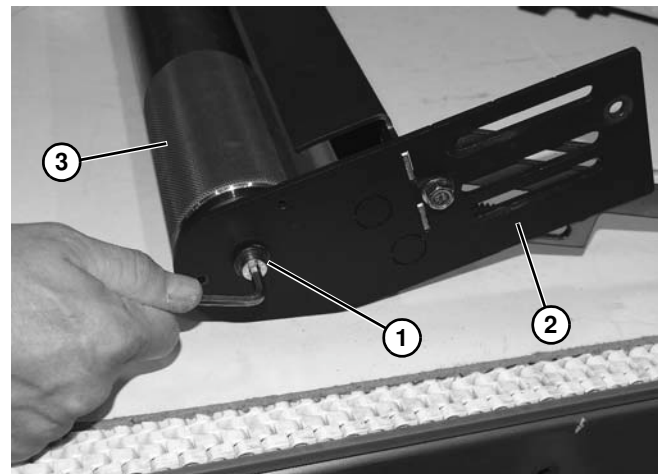

Figure 145
6. Remove screw and washer (**Figure 145, item 1**) securing cover plate (**Figure 145, item 2**) onto pulley (**Figure 145, item 3**).